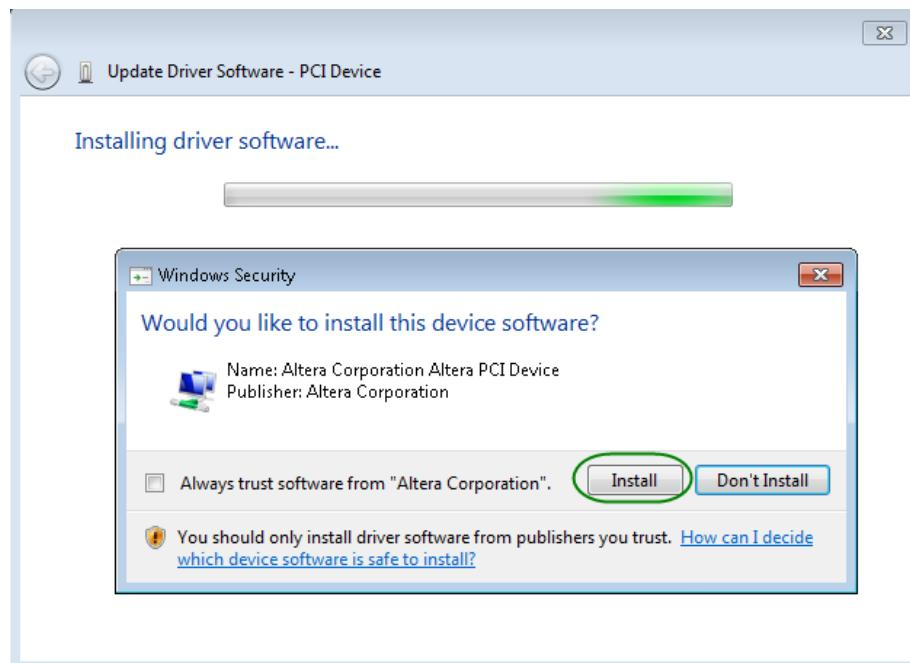

Figure 7-7 Click Install in the dialog of Windows Security
10. When the **Windows Security** dialog appears, as shown **Figure 7-7**, click the **Install** button.